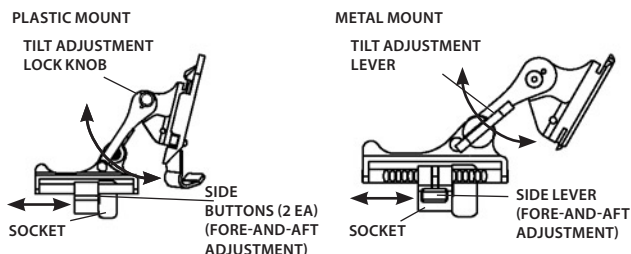

Figure 3-20. Tilt and Flip-up Assembly Mechanisms
Set your eye relief by depressing the side buttons (or press down on side lever on metal mount) (see Figure 3-20) and carefully move the monocular fore or aft until the eyecup comfortably seals around the eye. Readjust the helmet straps as required for vertical adjustment.
- (4) Turn power switch to ON. Adjust the tilt by using the tilt adjustment lock knob (or tilt adjustment lever on metal mount) (Figure 3-20) until you obtain a comfortable viewing angle.
- (6) Adjust the eye relief distance by depressing the side buttons (Figure 3-20) (or press down on side lever on metal mount) and sliding monocular fore or aft to obtain a full field-of-view of the image. Reset the diopter adjustment for best image.